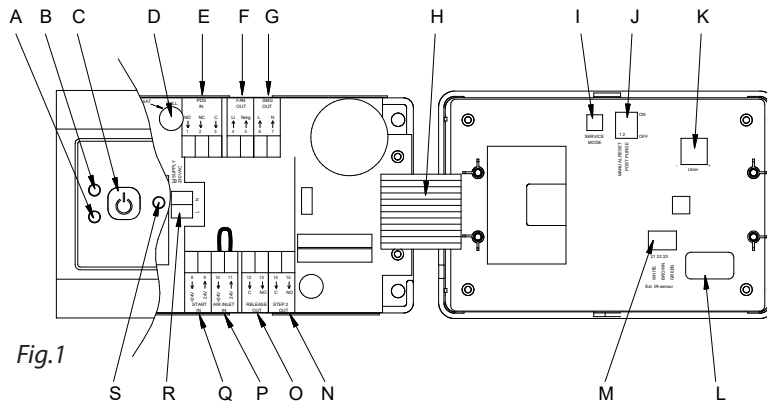

Fig.1
Check the factory-set DIP switch setting before commissioning (Fig. 1-J).
- Press ON/OFF button (Fig. 1-C).
- Press the service mode button (Fig. 1-I) on the back of the cover. Alarm LED (Fig. 1-A) will flash RED, and the operating LED (Fig. 1-B) will flash according to the position of the pressure switch – see the table below:
- The potentiometer (Fig. 1-K) is set to maximum by turning clockwise.